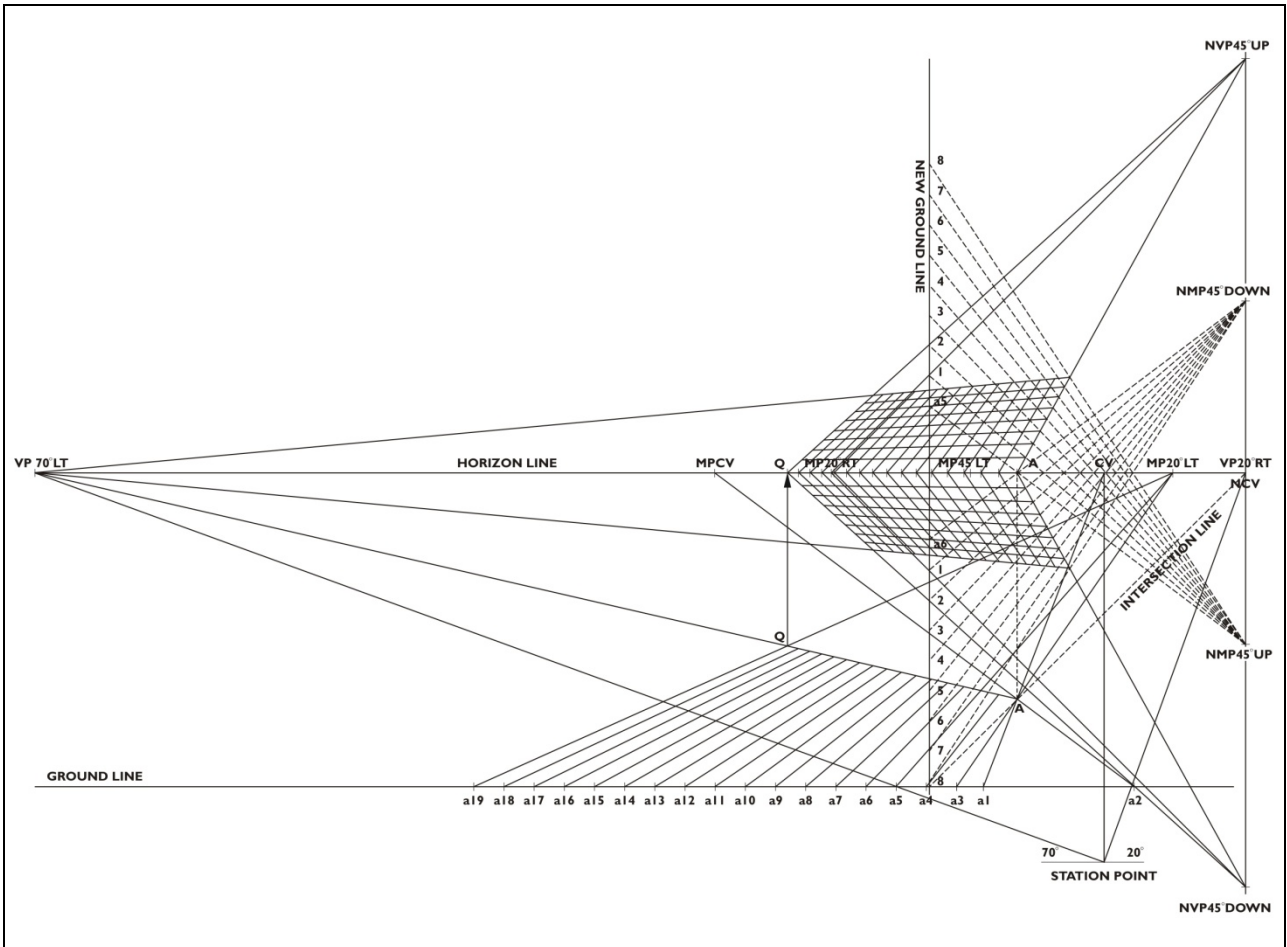

Figure 5.17 Construction of Three-Point Perspective Grid
2. Where all 16 points (a3 – q1) intersect the Horizon Line at A to Q (Refer to Figure 5.10) project to NVP 45° Up, these form the perspective foreshortened grid points. Repeat to create the other plane. Refer to Figure 5.17.
2. Where the measuring lines intersect the vanishing line from A to NVP 45° Up, these become the perspective foreshortened grid points. Project each of these points down to NVP 45° Down. Repeat to create the other plane. Refer to Figure 5.17.